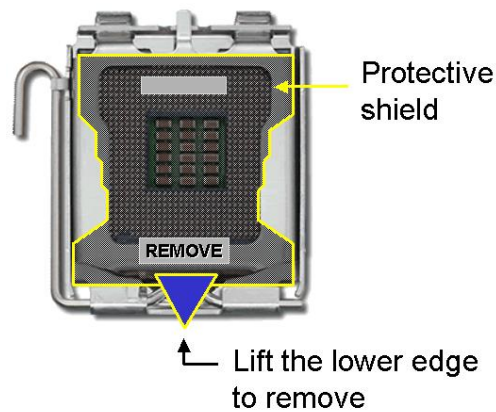

Figure 5-2: Remove the CPU Socket Protective Shield
- Step 1:** Remove the protective cover. Remove the black protective cover by prying it off the load plate. To remove the protective cover, locate the “REMOVE” sign and use your fingernail to pry the protective cover off. See **Figure 5-2**.